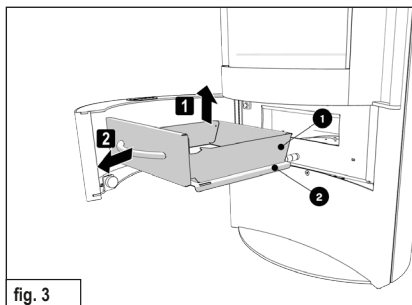

fig. 3
- ▶ Pull out the ash container (❶) by the handle with the lid (❷) (fig. 3).